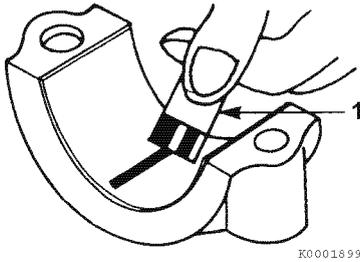

Figure 6-66
- 5- Compare the width of the flattened PLASTIGAGE to the graduation marks on the package (1, **Figure 6-66**). The mark that most closely matches the width of the flattened PLASTIGAGE will indicate the bearing oil clearance.